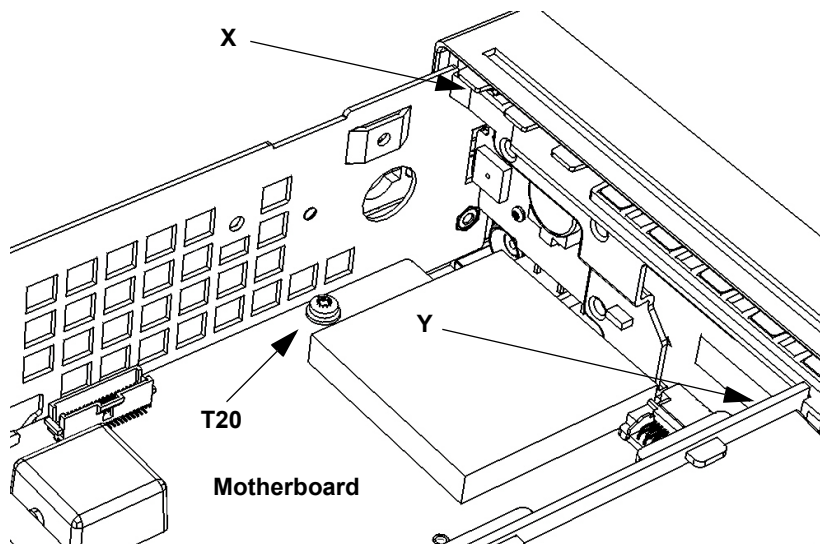

Figure 3-8. Front Panel Removal
- 9 Turn the counter chassis upright and position the counter as shown in Figure 3-8.
- 10 Remove the T20 TORX screw on the front left-hand side of the motherboard as shown in Figure 3-8.
- 11 With your right hand, press in on the plastic tab (X on Figure 3-8) at the top left front of the front panel, while at the same time, use your left hand to press in on the front of the left-hand aluminum chassis side-panel, so that the front of the side-panel overlaps the depressed tab and keeps it depressed. The left front standoffs should now be free of their holes.
- 12 On the middle front right-hand side of the front panel, pull the plastic tab (Y on Figure 3-8) carefully toward the rear of the chassis and simultaneously press in on the right side panel of the aluminum chassis until the front panel is partially released. The right front standoffs should now be free of their holes.